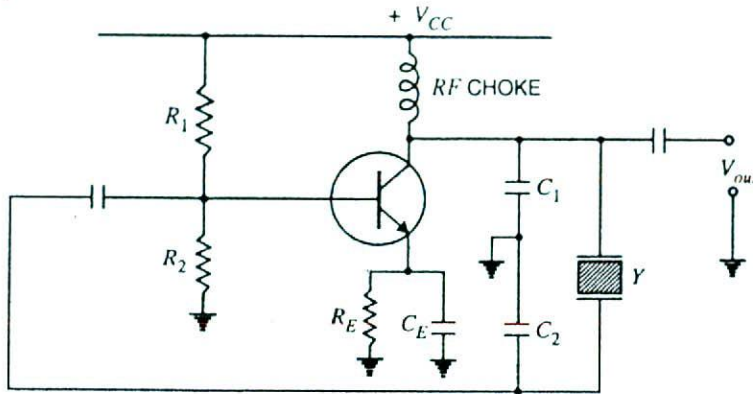

Fig. 16.23
Fig. 16.23 shows the transistor crystal oscillator. Note that it is a Collpit's oscillator modified to act as a crystal oscillator. The only change is the addition of the crystal (Y) in the feedback network. The crystal will act as a parallel-tuned circuit. As you can see in this circuit that instead of resonance caused by L and $(C_1 + C_2)$, we have the parallel resonance of the crystal. At parallel resonance, the impedance of the crystal is maximum. This means that there is a maximum voltage drop across C_1 . This in turn will allow the maximum energy transfer through the feedback network at f_p .